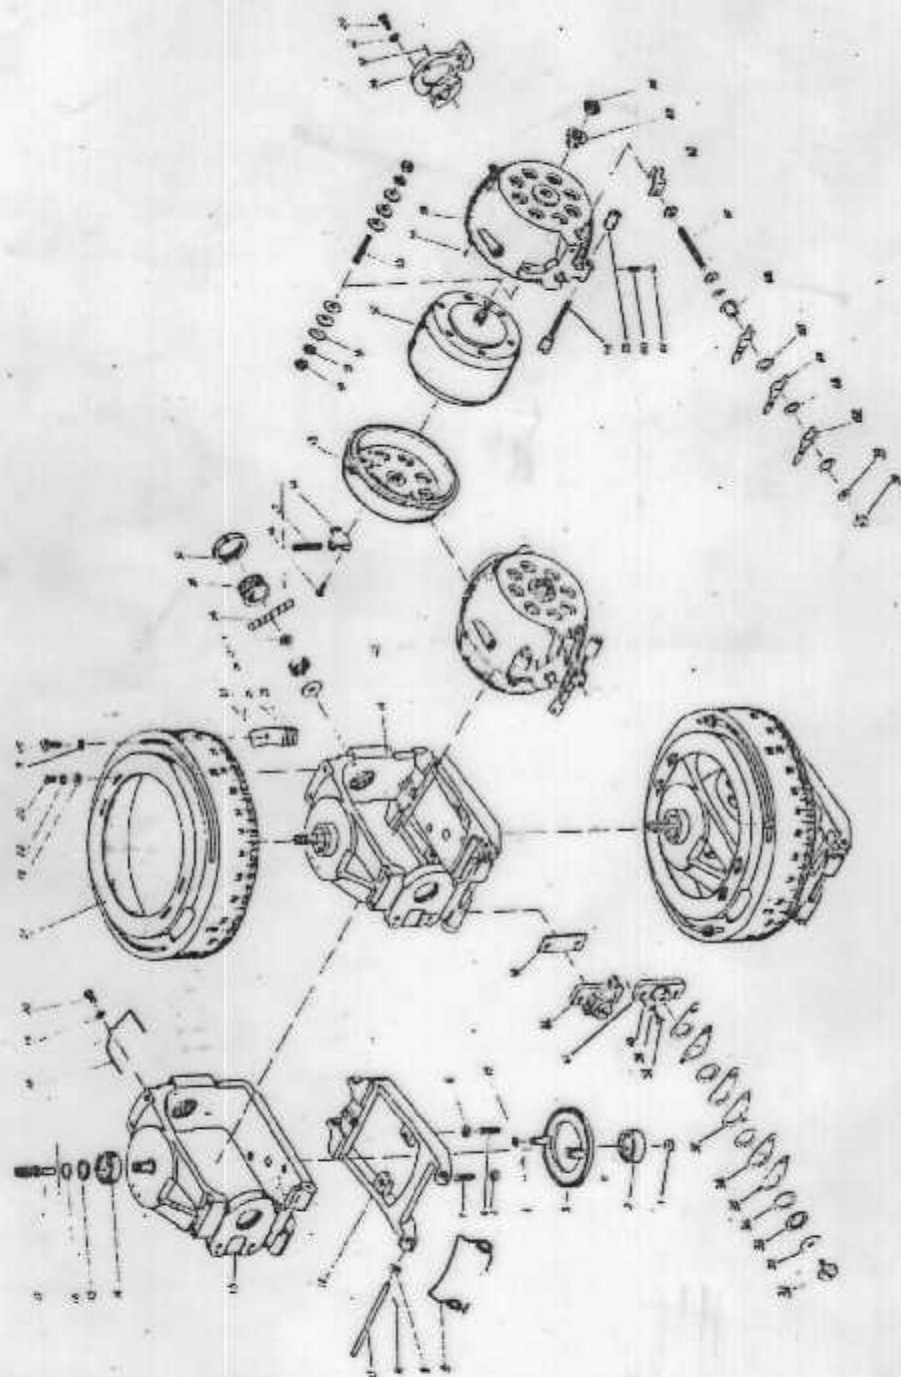

Fig. 5. Gimbal unit 127.Сб14.
~~Рис. 5. Узел-серванто 127-Сб14~~
- 2.3. Front wall with parts 127-cd5 (fig.5)
- 2.4. Gimbal assembly unit 127-cd14 (fig.5).